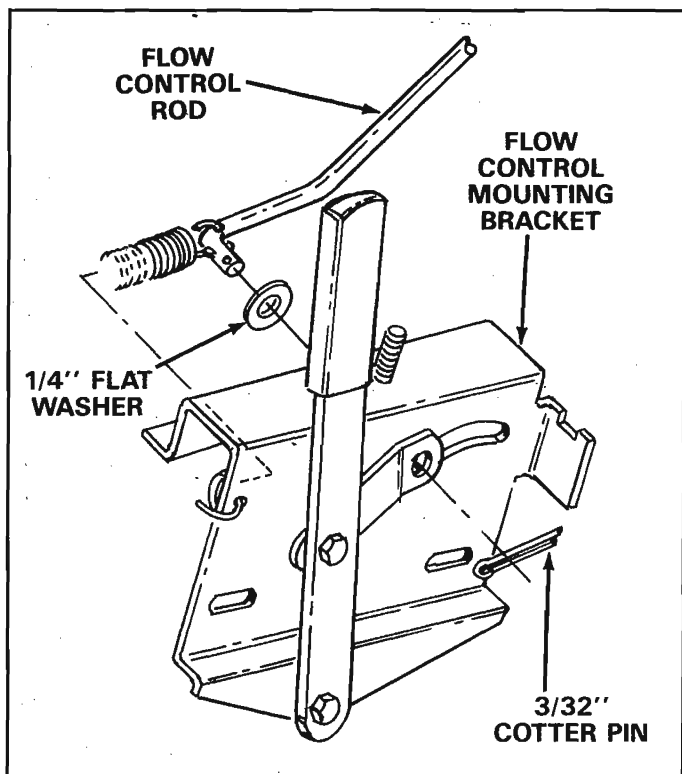

FIGURE 12
20. Place 5/16" SAE washer on end of flow control link, align with slot in flow control mounting bracket and insert end of flow control rod through slot and hole in flow control link. Secure with 3/32" cotter pin. See figure 12.